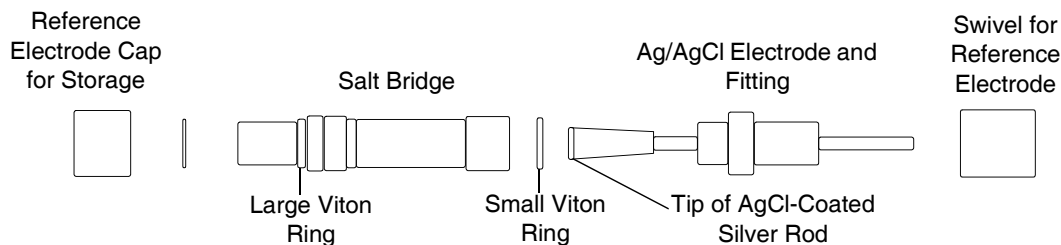

Figure 4-8 Components of the Salt-Bridge Reference Electrode
5. Disassemble the electrode by unscrewing the swivel from the top of the electrode (Figure 4-8).